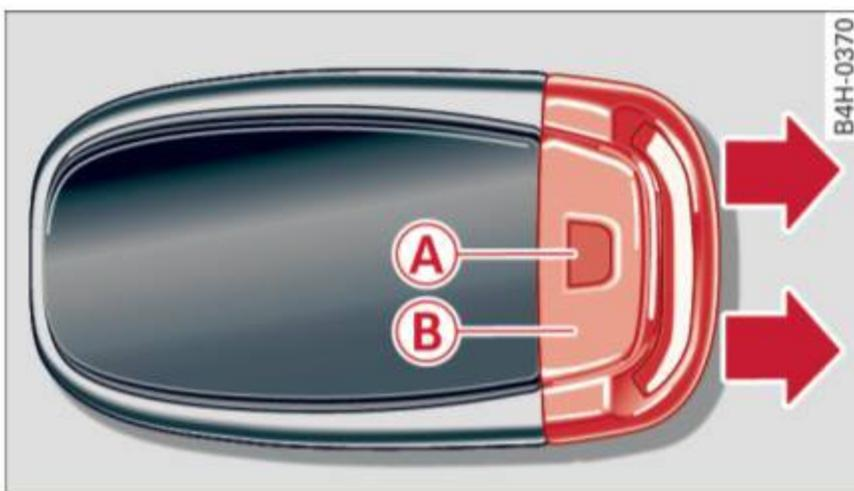

Fig. 20 Remote master key: removing the mechanical key
- ▶ Press the release button (A) ⇒ fig. 20.
- ▶ Pull the mechanical key (B) out of the master key.